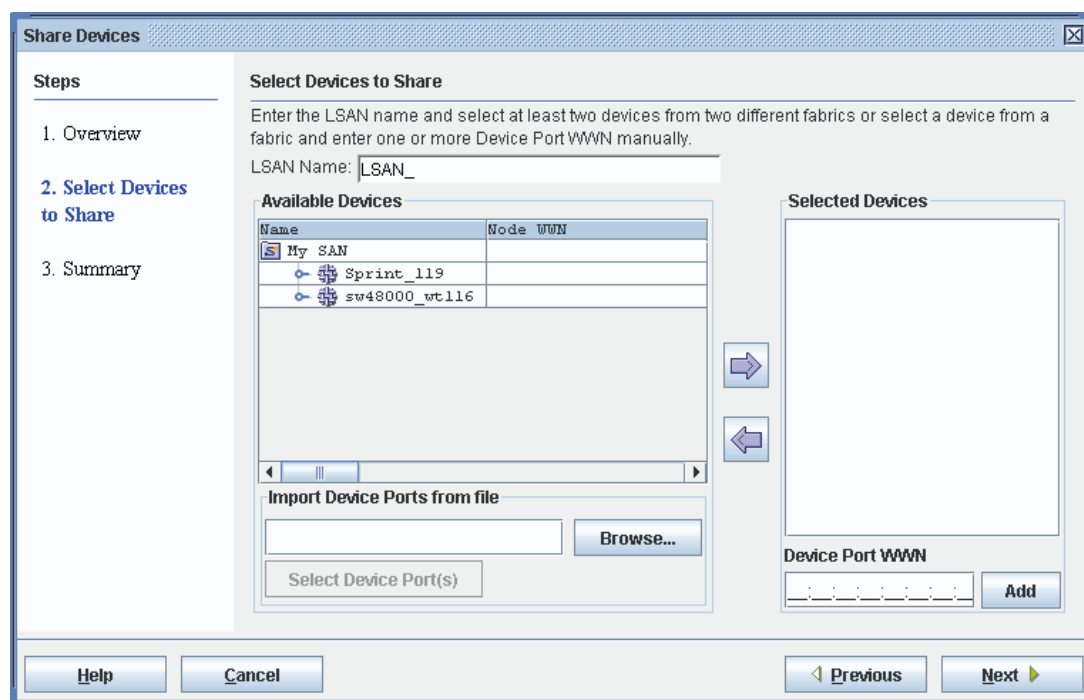

Figure 21-9 Share Devices Wizard, Step 2
5. Click **Browse** to locate your .csv file; then click **Open**. (See Figure 21-9.)